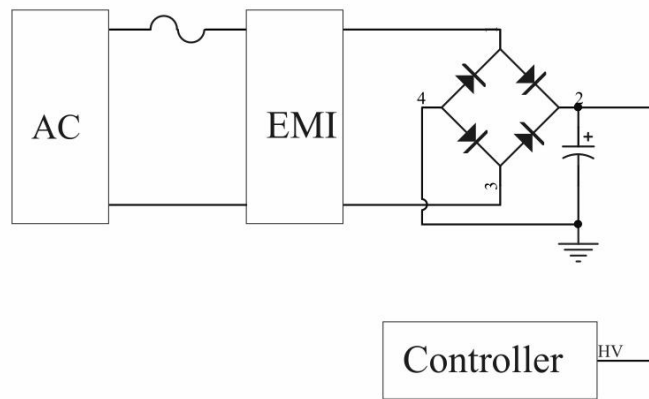

Figure1: High Voltage Start-up Circuit
DK0xxG contains multi-function high voltage (HV) pin. As shown in Figure 1, to achieve fast startup and to reduce standby power consumption, DK0xxG contains a HV startup circuit. Meanwhile, HV pin can